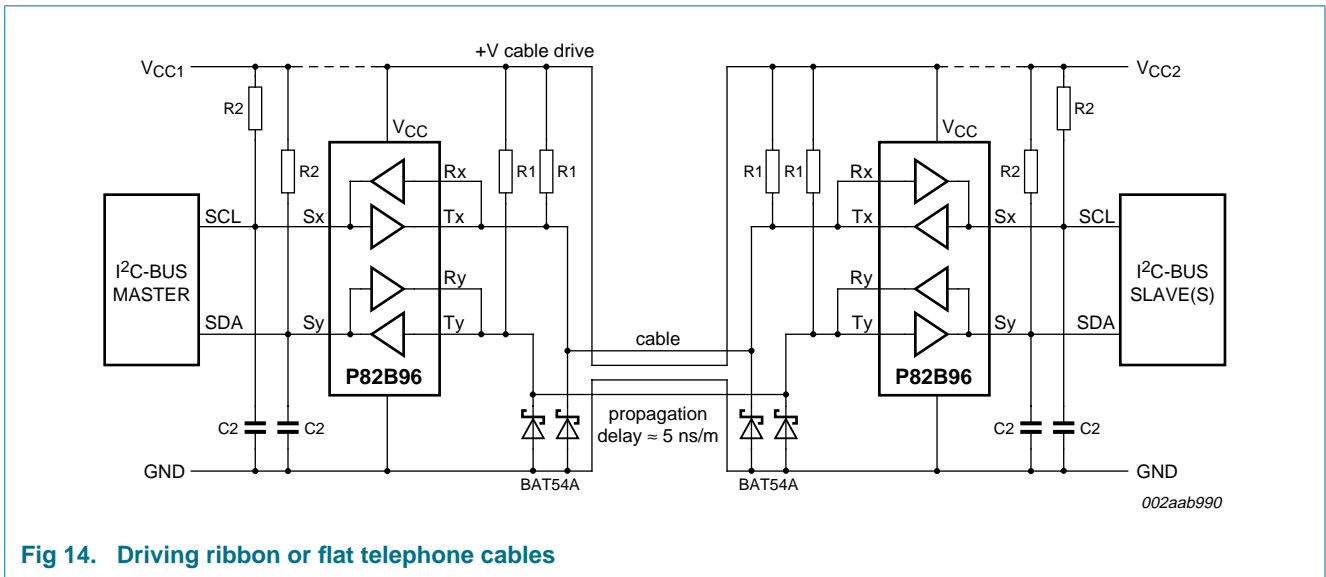

Fig 14. Driving ribbon or flat telephone cables
Figure 14 shows that P82B96 can achieve high clock rates over long cables. While calculating with lumped wiring capacitance yields reasonable approximations to actual timing, even 25 meters of cable is better treated using transmission line theory. Flat ribbon cables connected as shown, with the bus signals on the outer edge, will have a characteristic impedance in the range 100  $\Omega$  to 200  $\Omega$ . For simplicity they cannot be terminated in their characteristic impedance but a practical compromise is to use the minimum pull-up allowed for P82B96 and place half this termination at each end of the cable. When each pull-up is below 330  $\Omega$ , the rising edge waveforms have their first voltage 'step' level above the logic threshold at Rx and cable timing calculations can be based on the fast rise/fall times of resistive loading plus simple one-way propagation delays. When the pull-up is larger, but below 750  $\Omega$ , the threshold at Rx will be crossed after one signal reflection. So at the sending end it is crossed after 2 times the one-way propagation delay and at the receiving end after 3 times that propagation delay. For flat cables with partial plastic dielectric insulation (by using outer cores) the one-way propagation delays will be about 5 ns per meter. The 10 % to 90 % rise and fall times on the cable will be between 20 ns and 50 ns, so their delay contributions are small. There will be ringing on falling edges that can be damped, if required, by using Schottky diodes as shown.
**Table 6. Examples of bus capability**Refer to Figure 14.